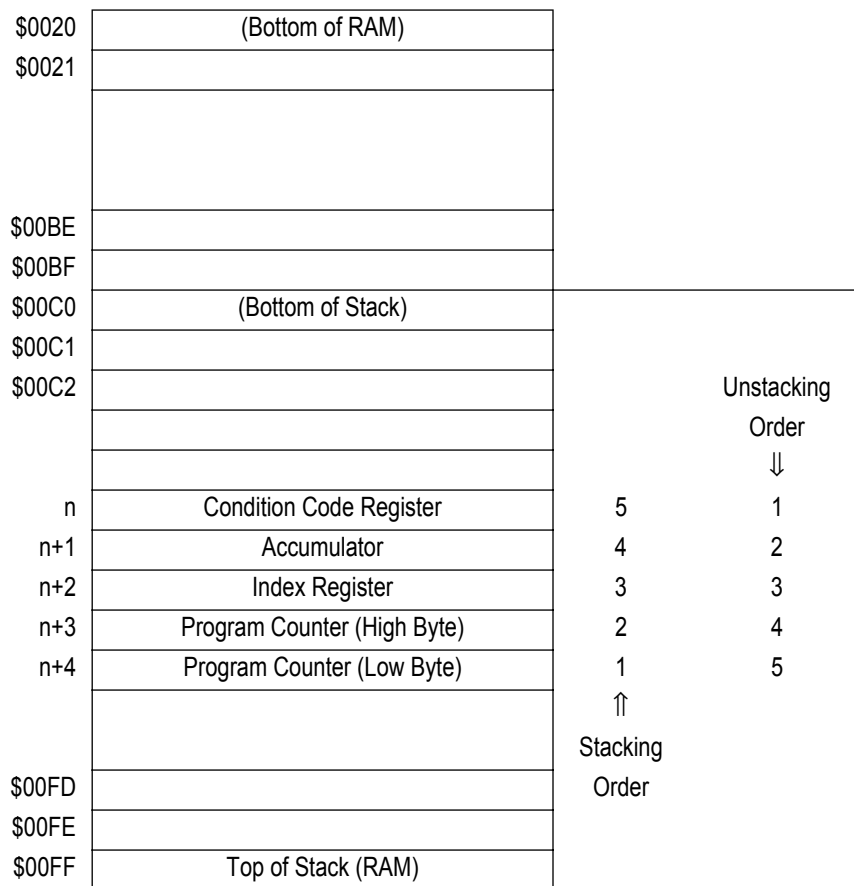
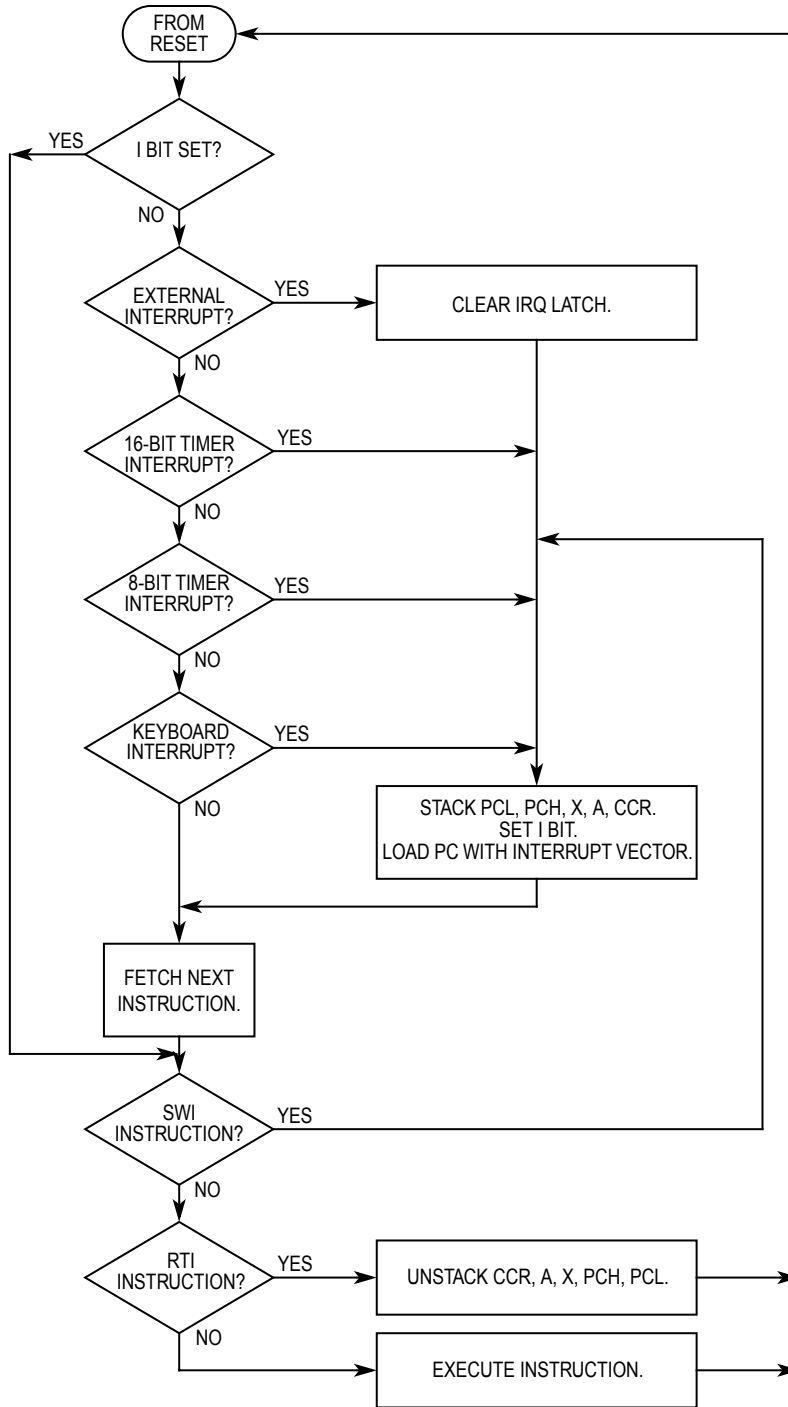

Figure 4-1. Interrupt Stacking Order
Figure 4-2. Interrupt Flowchart
- Stores the CPU registers on the stack in the order shown in **Figure 4-1**
The return from interrupt (RTI) instruction causes the CPU to recover its register contents from the stack as shown in **Figure 4-1**. The sequence of events caused by an interrupt is shown in the ow chart in **Figure 4-2**